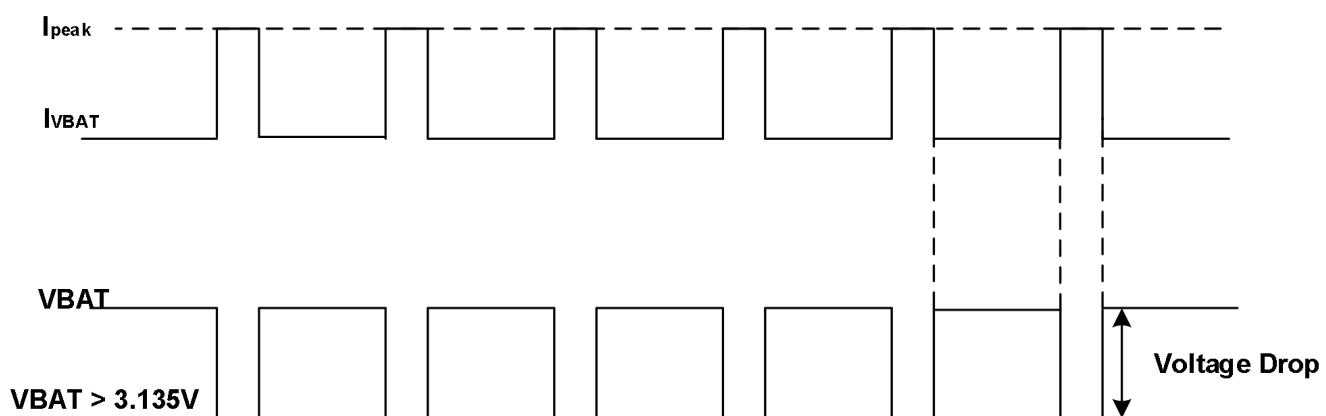

Figure 4: VBAT voltage drop at the maximum power radio transmission
3. The data in Table 6 and Figure 4 is TBD.